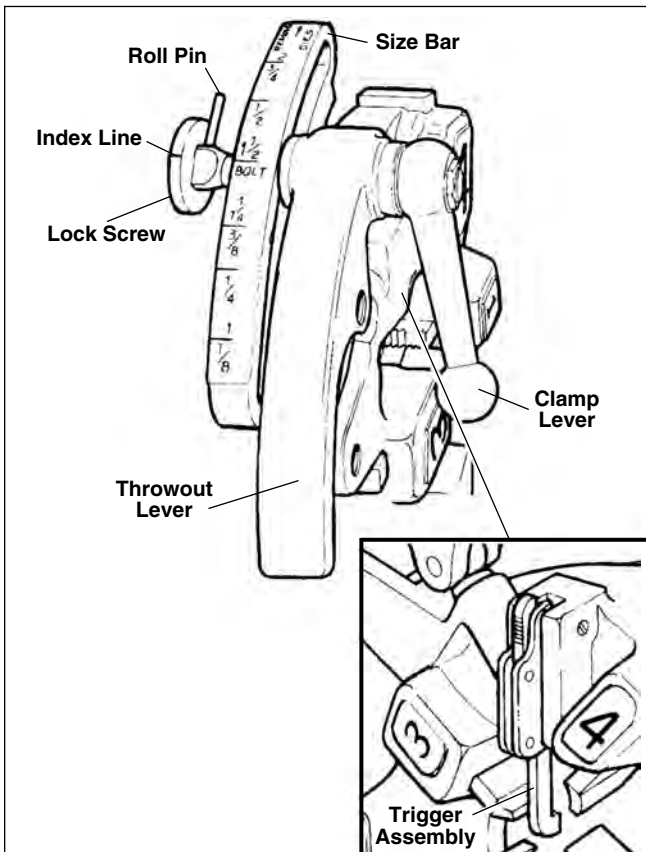

Figure 13 – No. 815 Self-Opening Die Head
- Self-Opening 815A Die Head (Figure 13) – Push throwout lever down until the release trigger cocks.
Self-Opening 815A Die Head (Figure 13) – When die head trigger contacts end of pipe, throwout lever automatically opens.
NOTE! The No. 815 Self-Opening Die Head (*Figure 13*) for right hand threads requires four sets of dies to thread pipe ranging from $\frac{1}{8}$ " through 2". One set of dies is required for each of the following pipe size ranges: ($\frac{1}{8}$ "), ($\frac{1}{4}$ " – $\frac{3}{8}$ "), ($\frac{1}{2}$ " – $\frac{3}{4}$ ") and (1" – 2"). Bolt threading requires a separate set of dies for each bolt size.